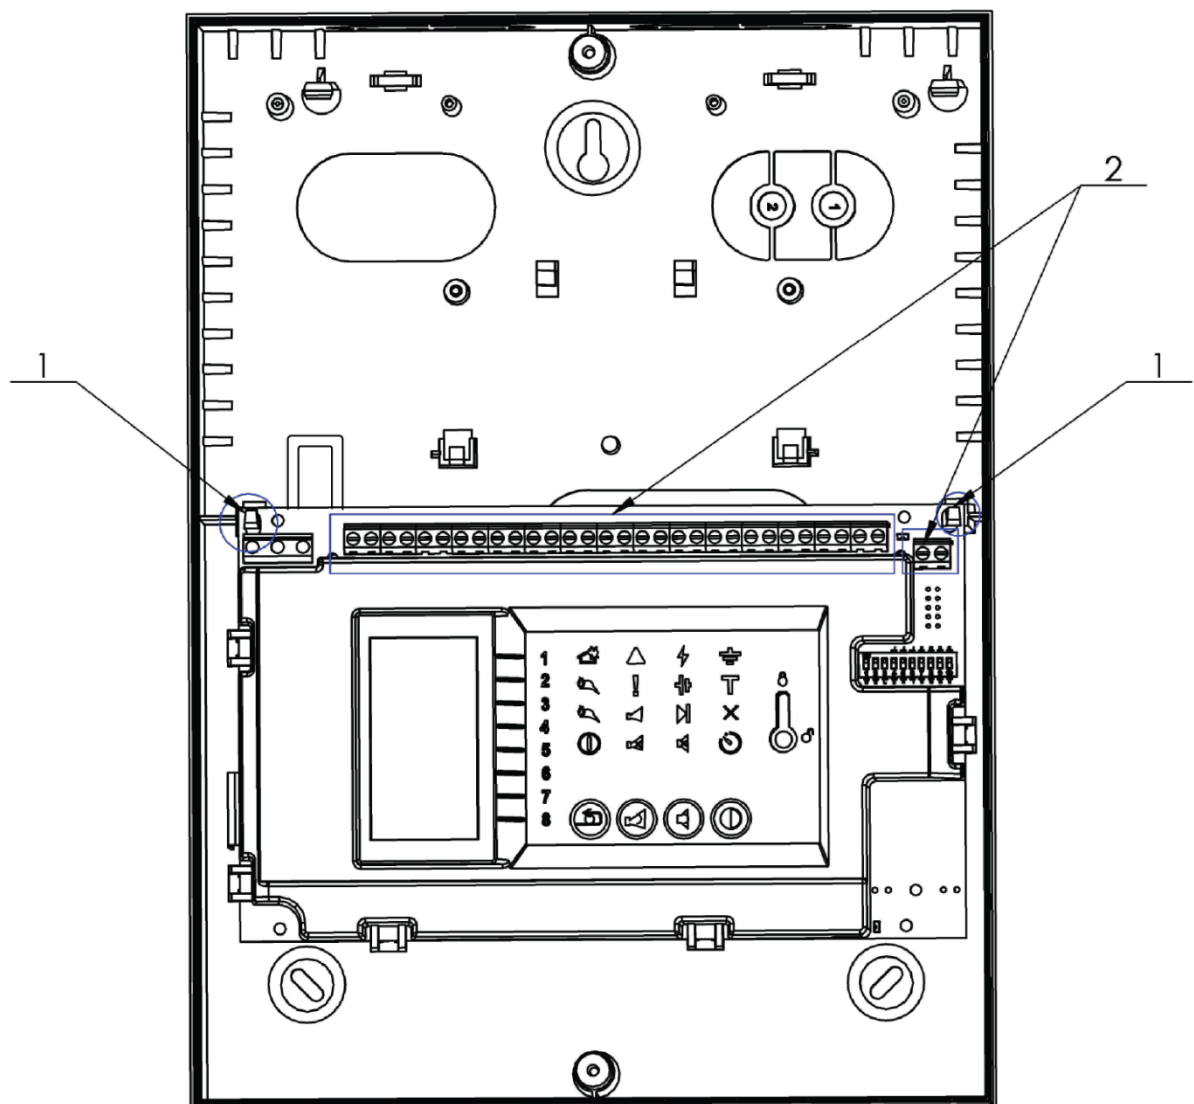

Fig.10
- For easy wires installation in the PCB connectors, the interface board is mounted to the bottom holders, as illustrated on fig.10, pos.1.
- The signal cable lines, dedicated for the conventional zones and fire protection and fire alarm equipment, are fit to the PCB connectors in the main interface board (fig.10, pos. 2), without being fully tighten. The mains cable is not connected in the PCB connector on this stage, but later on when the interface board is in its initial position (refer p.14.1.7)